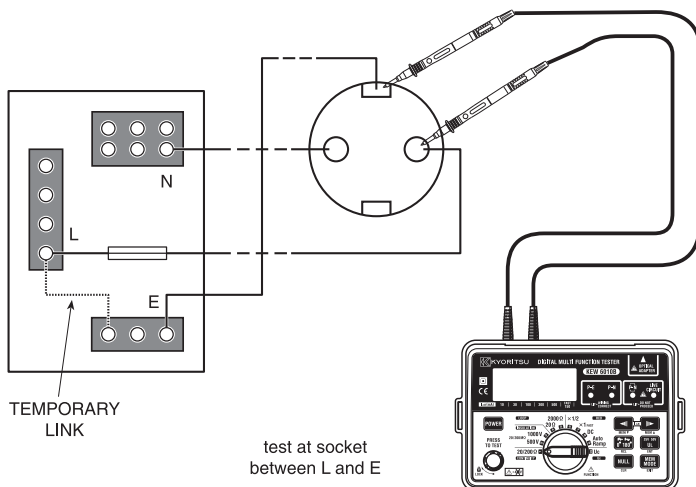

Fig 3
5. Connect the test leads to the circuit whose resistance is required (see Fig 3 for a typical connection arrangement). Having first made sure **that the circuit is not live**. Note that the live circuit warning LED will illuminate if the circuit is live - but check first anyway!